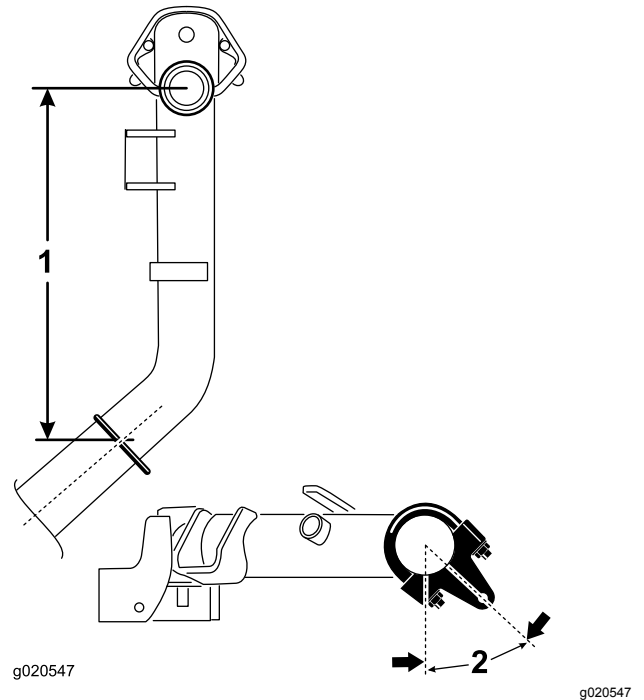

Figure 6
- On lift arm numbers 2 and 3, position the brackets and U-bolts 38.1 cm (15 inches) behind the center line of the pivot knuckle (Figure 6).